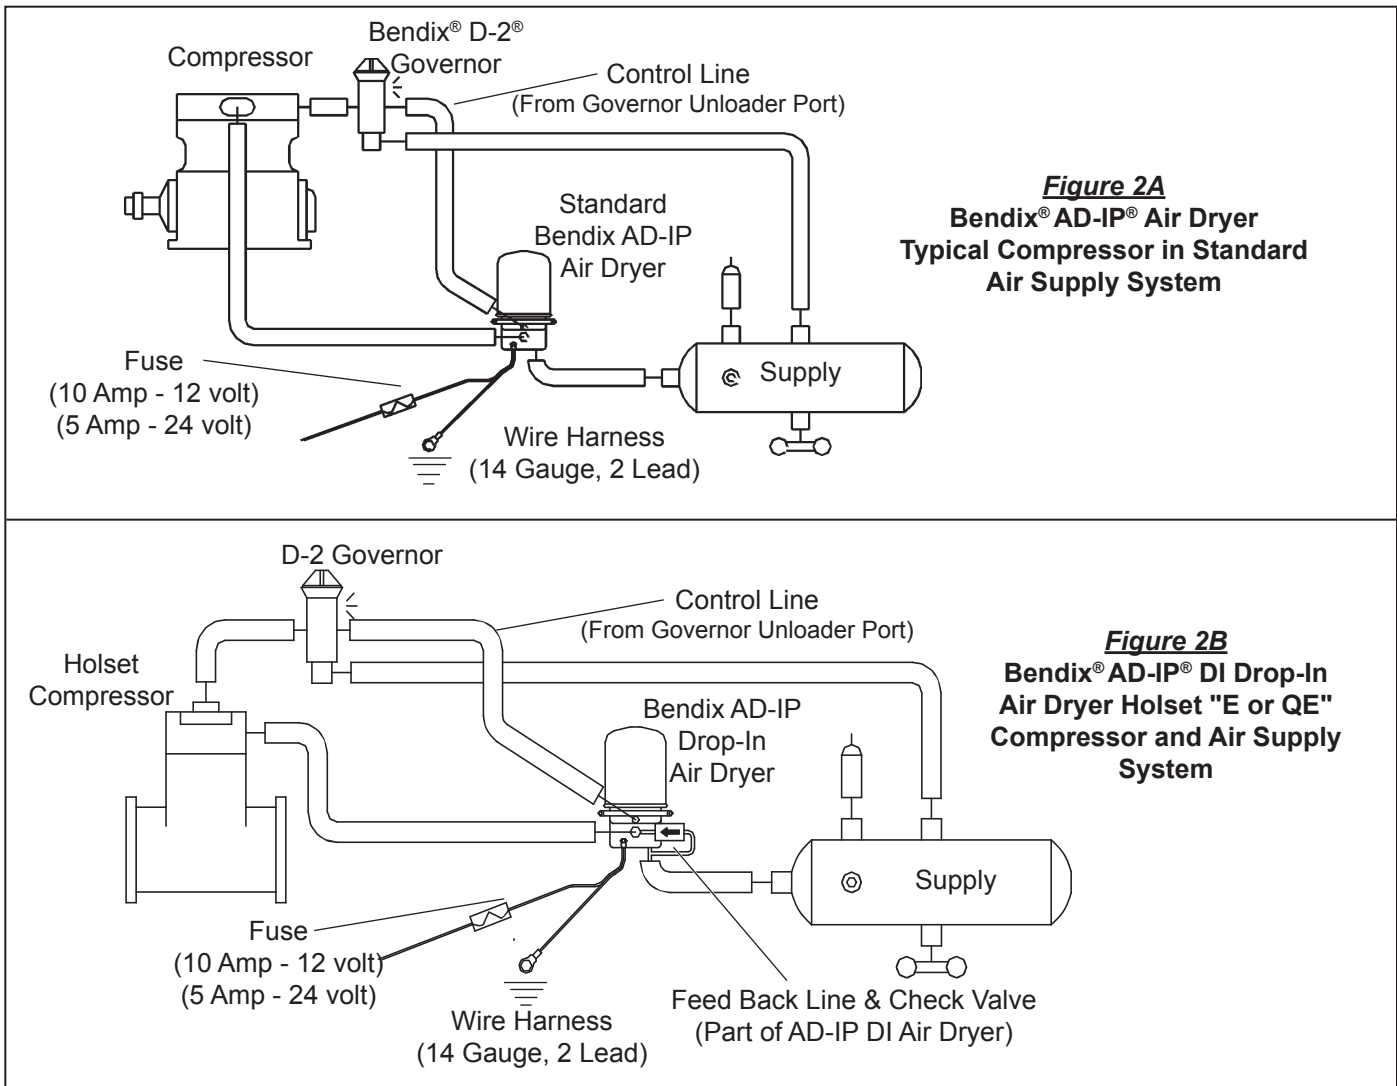

Figure 2 – Bendix® AD-IP® Air Dryers and Charging System Schematics
NOTE: The soft seat of the AD-IP air dryer turbo cut-off valve, along with the feedback line kit, eliminates the need for the Holset E-Con valve which is sometimes plumbed in the compressor discharge line. However, external plumbing of the feedback line kit is required. (See Figures 2 and 3).
1. Make certain a governor, such as the Bendix® D-2® governor, is installed as illustrated in *Figure 2*. The governor must be in place before proceeding to step 2.